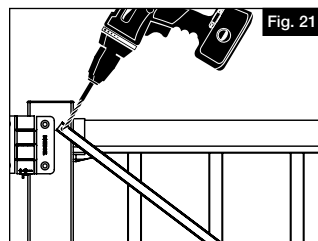

Fig. 21
- Attach brace to uprights. Pre-drill one end of brace with a $\frac{1}{8}$ " drill bit through upright, then anchor the brace to the upright with #8 x $\frac{3}{4}$ " screw. Repeat for other end of brace (Fig. 21).